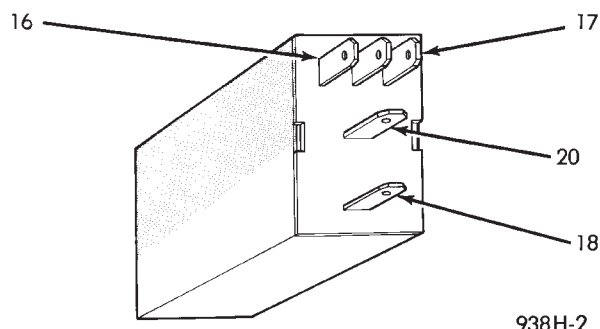

Fig. 13 Speed Control Relay
- (1) With the ignition off, remove the speed control relay located in the junction block (Fig. 13 and 14). Inspect the connector and repair if necessary.
- (2) With the ignition ON, measure the voltage at pin 16 of the relay connector. If the voltage is less than 10.0 volts.
(b) Repair the open wire between the relay connector and fuse #14 or between ignition and fuse #14. (3) Remove the speed control relay from the relay bank and measure the resistance across the relay terminals 16 and 17 (Fig. 13). If the resistance is greater than 100 ohms replace the relay. (4) With the ignition off, disconnect the powertrain control module. Measure the resistance between the powertrain control module connector pin 55 and the